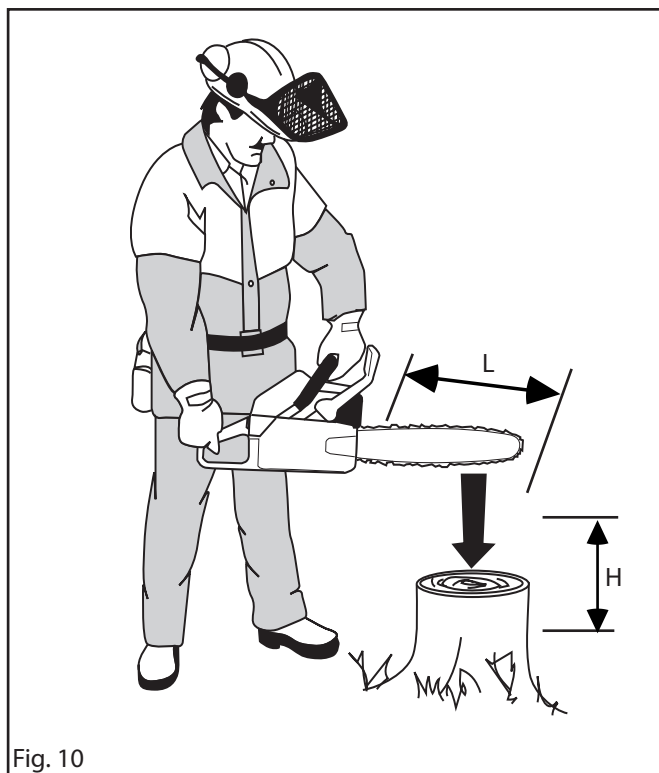

Fig. 10
1. Hold the chainsaw over a stable surface as shown in figure 10. The distance between the bar and surface is given in the table below.
2. Slide in the throttle trigger (C) and spring in the rear handle. See figure 9. Make sure that the spring is fitted as outlined in figure 10.